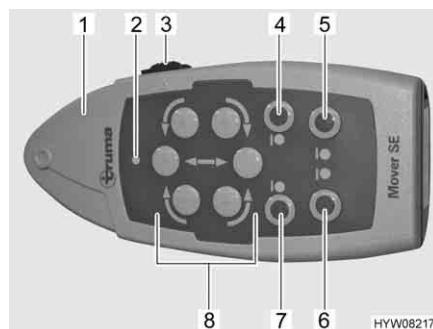

Fig. 3 Remote control
- Push the sliding switch (Fig. 3,3) on the remote control (Fig. 3,1) to "ON" (I). If the green LED (Fig. 3,2) lights up, the manoeuvring system is operational.
- Swivel the drive rollers onto the tyres on both sides. To do so, press the "Engage" (Fig. 3,4 and 7) buttons.
- Move the vehicle into the required position using the direction buttons (Fig. 3,8).
- Swivel the drive rollers away from the tyres on both sides. To do so, press the "Disengage" (Fig. 3,5 and 6) buttons.
- Push the sliding switch (Fig. 3,3) on the remote control to "OFF" (0).